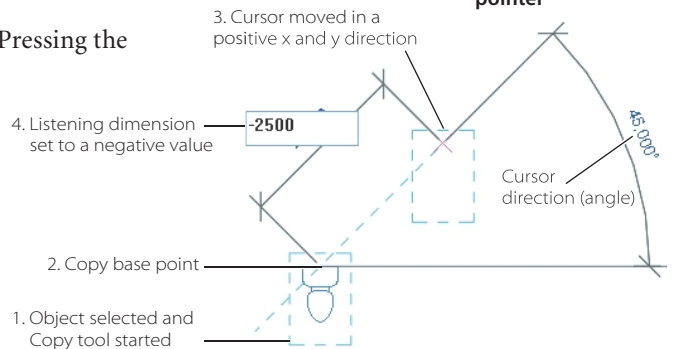

Figure 3.21
- When moving and copying elements, specify a distance with the listening dimension (Figure 3.21) to move in the direction you move the mouse pointer. Specifying a negative dimension value will move the element in the opposite direction of the mouse pointer.